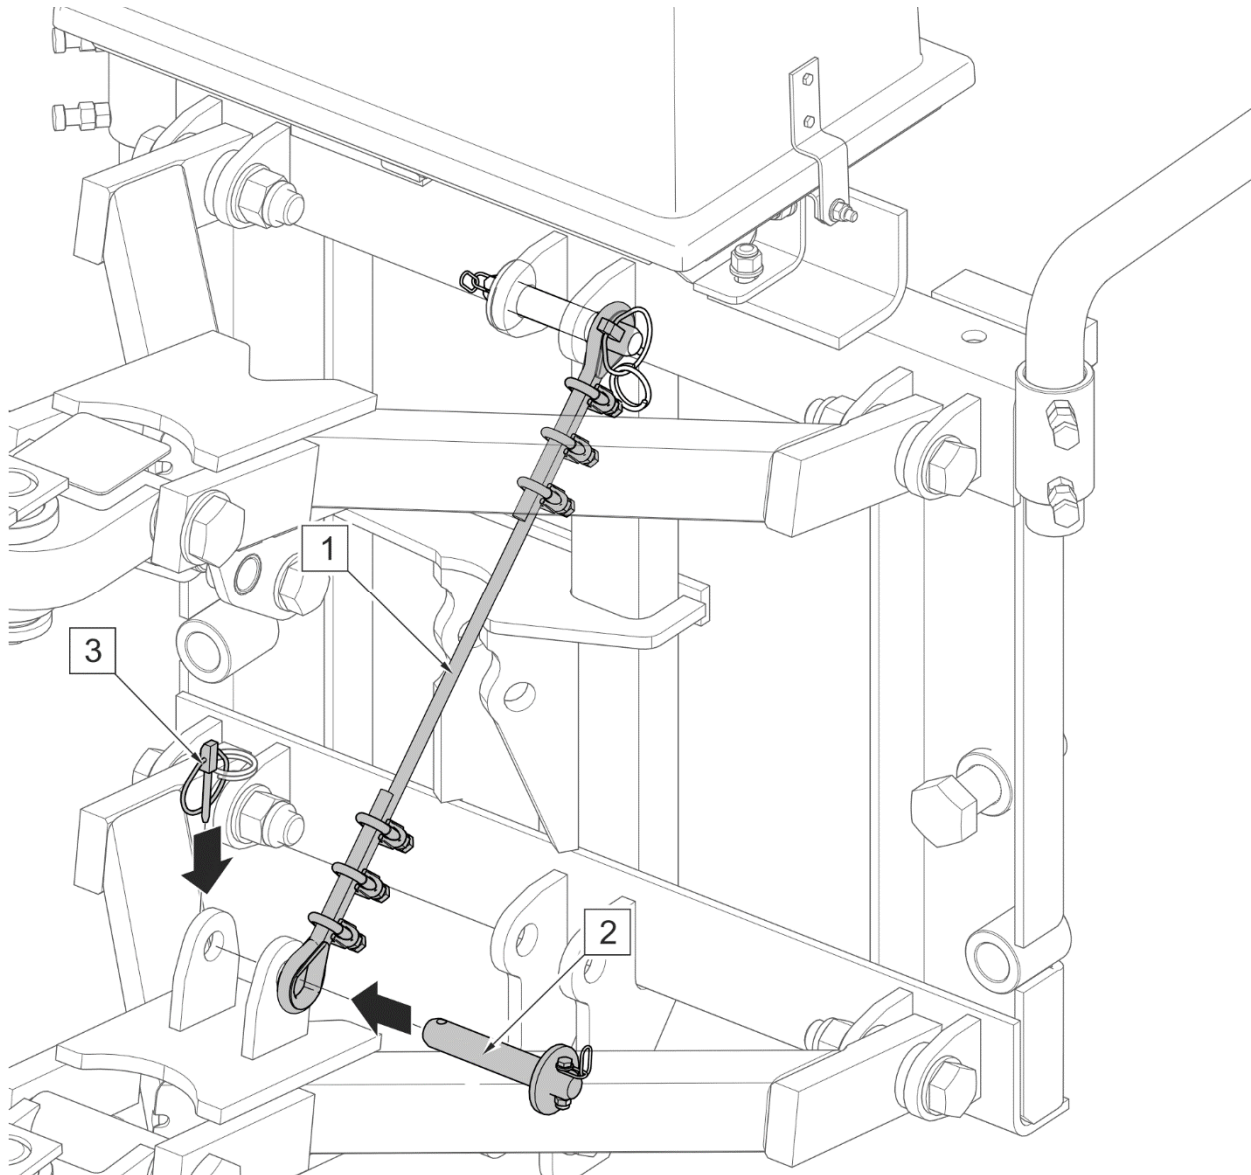

FIGURE 4.16 Installing transport protection
- When driving with raised snowplough, the mouldboard should be folded and the linkage system should be locked with transport protection (FIGURE 4.16).
In order to secure the machine's linkage in transport position and protect it against falling or accidental dropping (FIGURE 4.16):